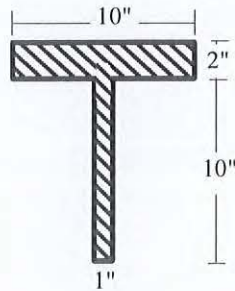

Fig.2
2. Calculate Yield Moment and Plastic Moment capacity of the section shown in Fig.2 if the section is made of elastic-fully plastic material [Given: $\sigma_y = \sigma_{yp} = 60$ ksi].